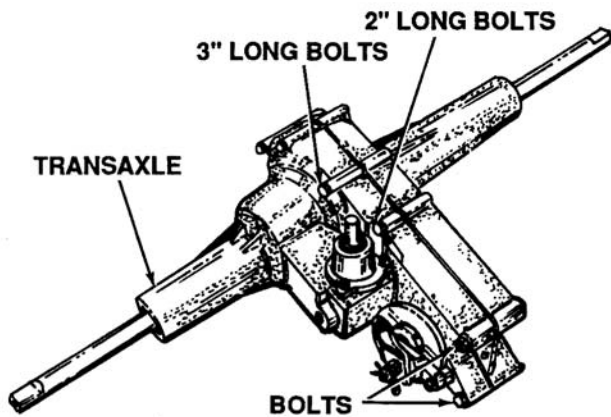

Figure 5-100. Pump Removal
2. Remove pump from transaxle by removing two bolts and nuts from front of transaxle using a 1/2 inch wrench. See Figure 5-100.